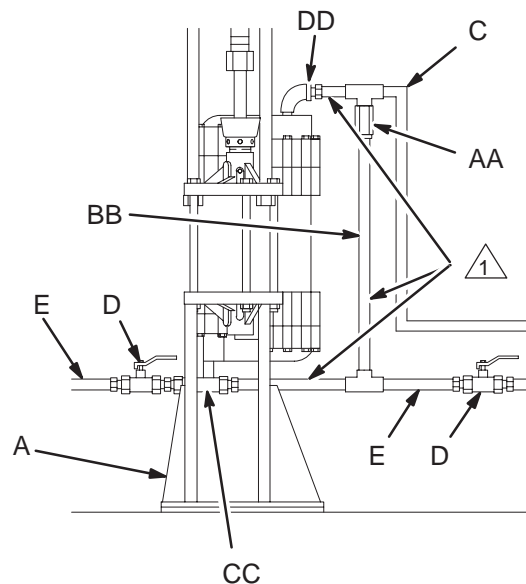

Fig. 3
In non-circulating systems with a fluid outlet that can be closed off (causing the pump to stall), install a fluid pressure relief valve (AA) and a return line (BB). See Fig. 3.